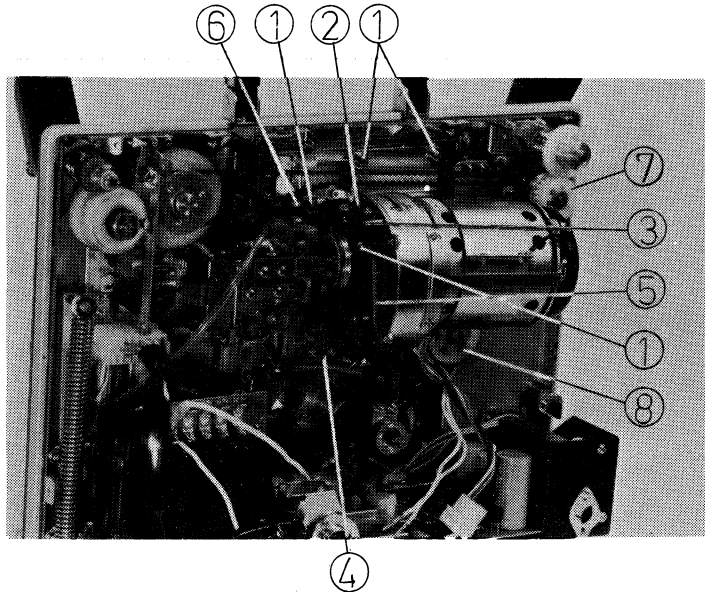

Fig. 26
- b. Disconnect the lamp cord from the 6P housing, pressing the (a) part in Fig.26 with the pincette.